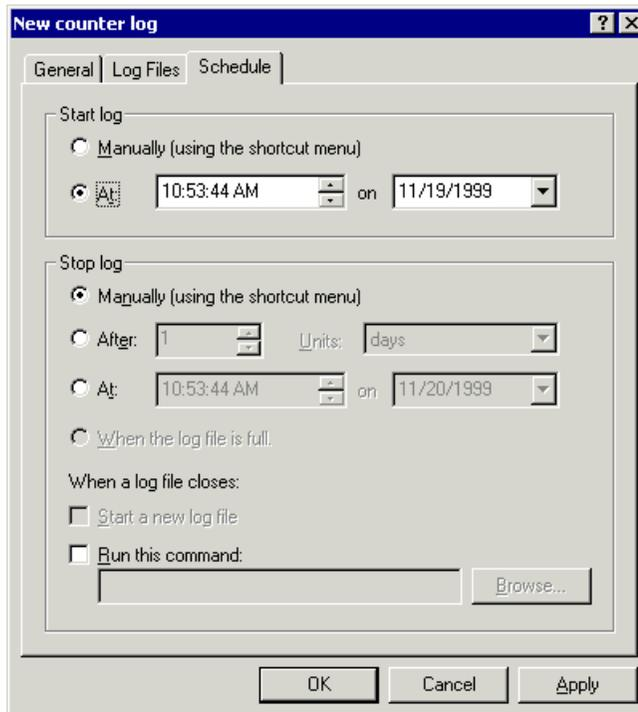

Figure 128. Schedule tab
7. The Schedule tab in Figure 128 allows you to set when the counter log file will start or stop and what actions to take when the counter log has stopped.